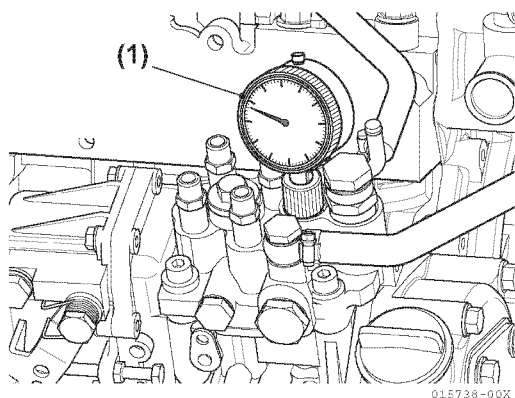

Figure 6-89
3. Note the reading on the dial indicator (**Figure 6-89, (1)**). If the reading is less than 2.5 mm (0.098 in.), the fuel injection timing is retarded. If the dial indicator reading is greater than 2.5 mm (0.098 in.), the fuel injection timing is advanced.